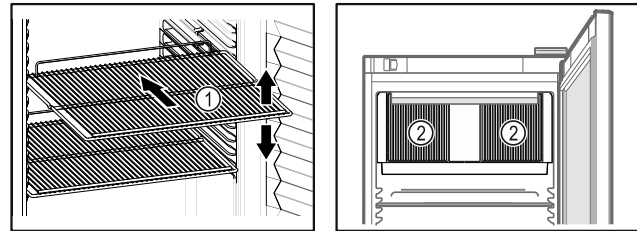

Fig. 80 Example illustration Fig. 81
- If there are adjustable shelves Fig. 80 (1), position them as required.